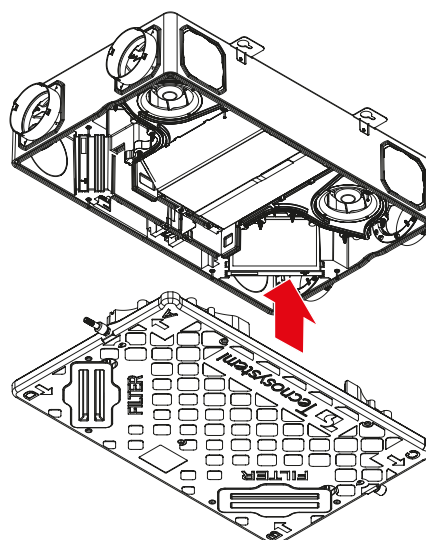

Fig. 5
6. Fix the casing on the unit and tighten the fastening screws (fig. 5).
7. Replace the buttons on the device (fig. 5).